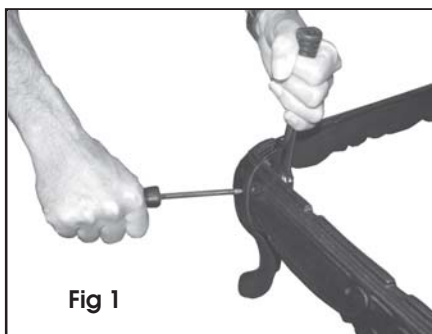

Fig 1
1. Take the legs and bolt them to the front and side base rails to create an oblong surround as shown in Fig 1.